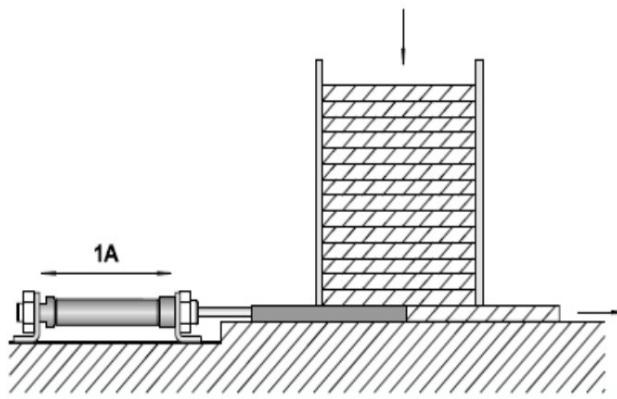

Figure 2(c) / Rajah 2(c)
- (c) Wooden planks from a gravity feed magazine are to be pushed to a clamping device. By pressing a pushbutton switch one plank is pushed by the slide out of the gravity feed magazine. After the slide has reached the forward end position it is returned to its start position. Refer Figure 2 (c), propose the electro-pneumatic circuit diagram for one cylinder.